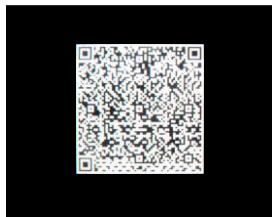

Figure 1-17 QR code interface
When the interface is shown as Figure 1-16, press the **On-Off / OK** Button ①/☑ to trigger the QR code, as shown in Figure 1-17.